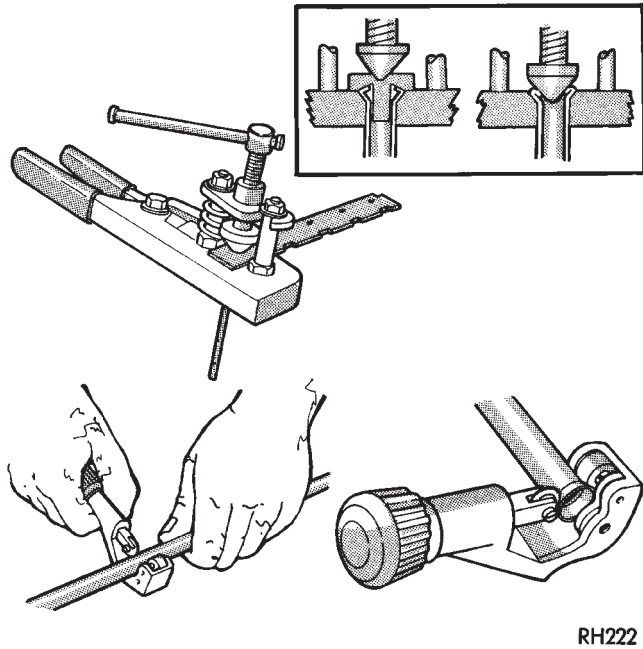

Fig. 15 Inverted Flare Tools
- (1) Cut off damaged tube with Tubing Cutter.
- (2) Ream cut edges of tubing to ensure proper flare.
- (3) Install replacement tube nut on the tube.
- (4) Insert tube in flaring tool.
- (5) Place gauge form over the end of the tube.
- (6) Push tubing through flaring tool jaws until tube contacts recessed notch in gauge that matches tube diameter.
- (7) Tighten the tool bar on the tube
- (8) Insert plug on gauge in the tube. Then swing compression disc over gauge and center tapered flaring screw in recess of compression disc (Fig. 15).
- (9) Tighten tool handle until plug gauge is squarely seated on jaws of flaring tool. This will start the inverted flare.
- (10) Remove the plug gauge and complete the inverted flare.